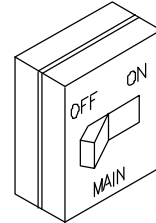

Fig. 3
1. Turn off the power at the main fuse box in your home(see Fig. 3).